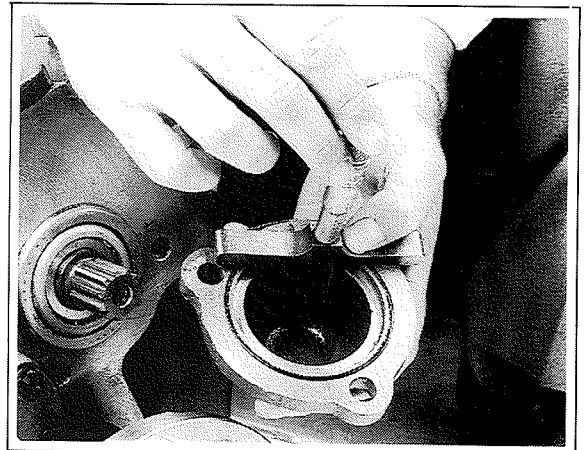

Fig. 17
2. Measure the depth of the recess in the oil pump and in the output shaft end cover as in Fig. 17, and make up the difference between the two dimensions with shims.